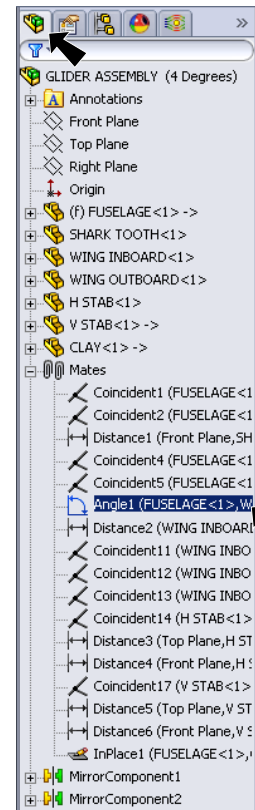

Fig. 41
Step 4. Click the **Feature Manager** tab  in the Feature Manager, **Fig. 41**.
Step 5. Expand **Mates** in the Feature Manager and click **Angle1**, **Fig. 41**.